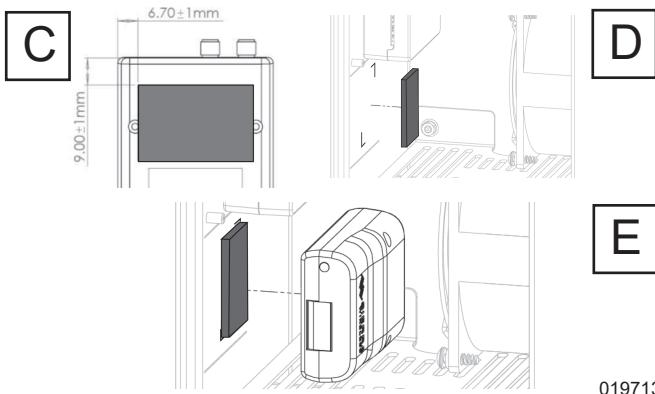

Figure 2. Install with Dual Lock Fastener
9. See Figure 2. If inverter does not include a mounting bracket: